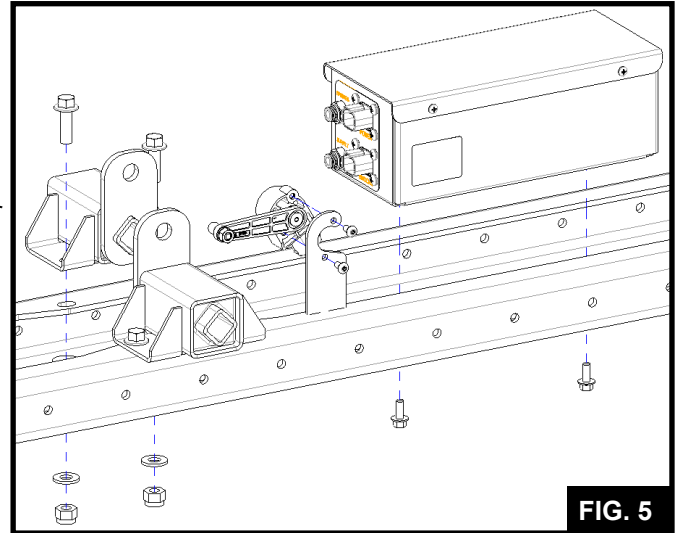

FIG. 5
Loosely attach the old lateral control rod assembly to the new crossmember using the fasteners removed in step 6.5. **DO NOT TIGHTEN** (FIG.5).
Mount the height control sensor to the tab on the crossmember using the (2) M5 X 10mm button head screws provided (FIG.5).
Secure the control box to the crossmember using the (2) 1/4 X 5/8 flange head bolts provided (FIG.5).
See **FIG.5** for reference.